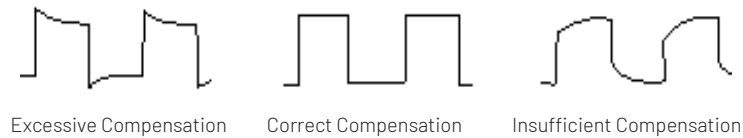

Figure 4-2 Compensating Calibration of Probe
- View the displayed waveform, as shown in Figure 4-2.